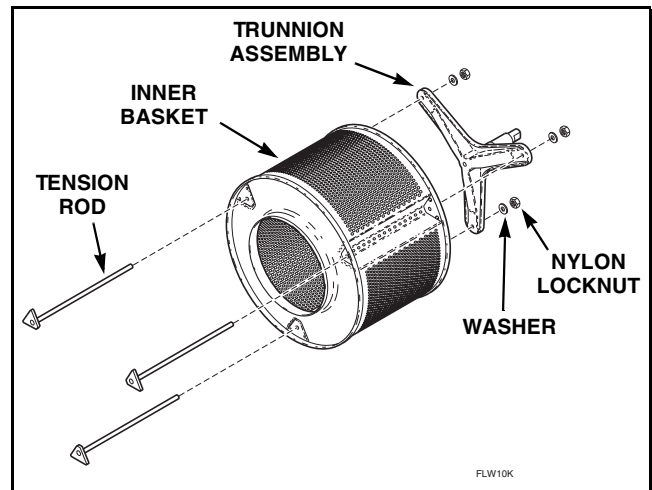
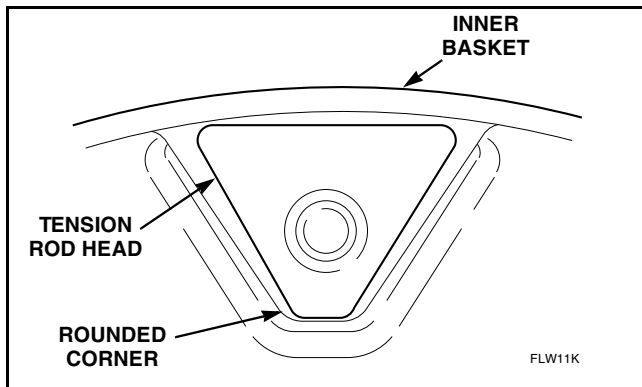

Figure 24
Figure 25
- Remove nuts, washers and tension rods holding trunnion to inner basket. Refer to *Figure 24*.
- Insert tension rods into inner basket. Refer to *Figure 24*. Position each rod so the rounded corner of triangular head faces the center of inner basket. Refer to *Figure 25*.